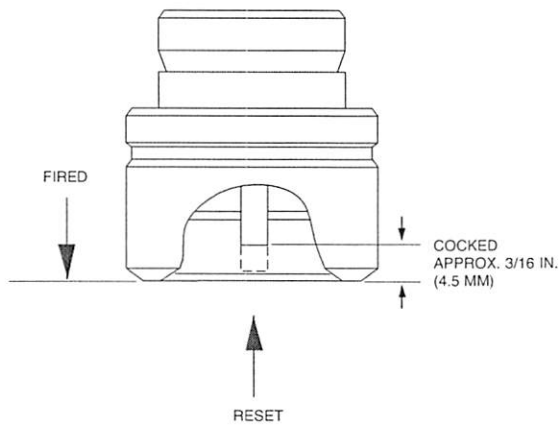

FIGURE 3
1. Make certain the piston in each pneumatic actuator is in the "UP" position. See Figure 3.